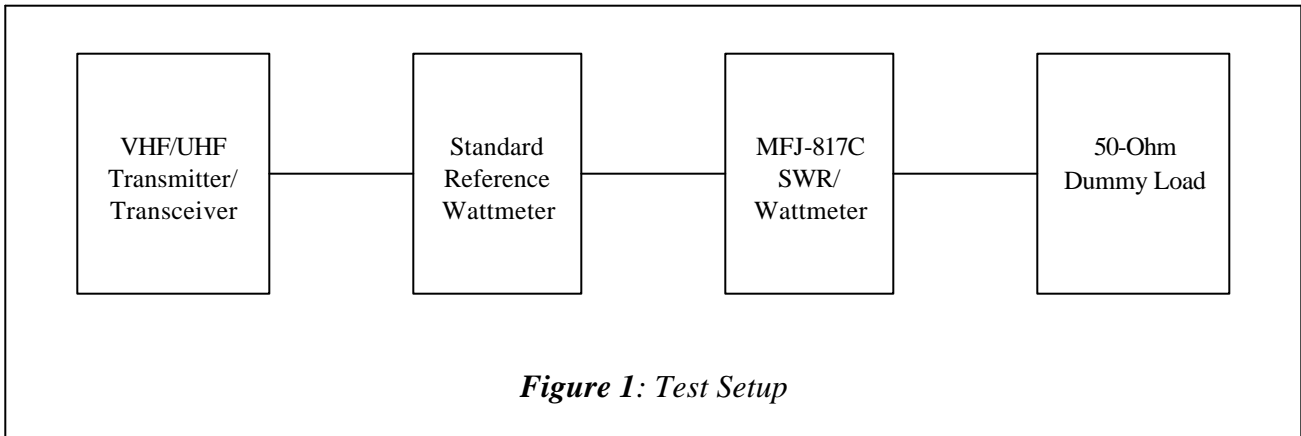
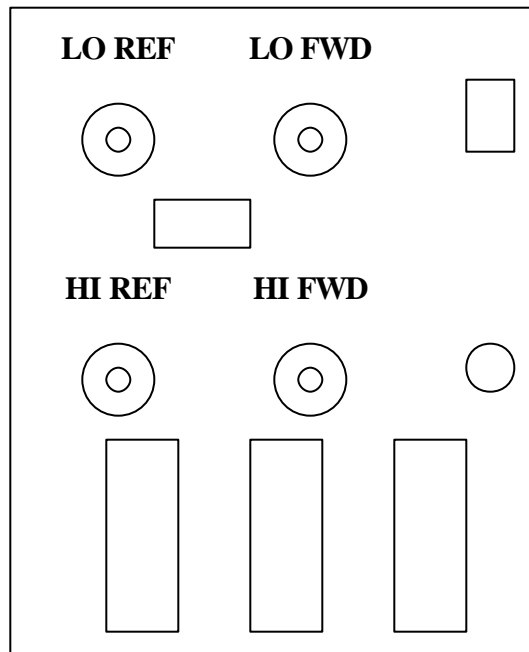

Figure 1: Test Setup
Figure 2: PCB Layout and Trim Pot Location
1. Refer to *Figure 1* for the Test Setup and refer to the PCB layout in *Figure 2* for trim pot location.
3. Connect the Test Setup equipment as shown in *Figure 1*. Use a 50-ohm dummy load for the antenna. Set the Transmitter to the 144/220/440 MHz in the VHF/UHF band.